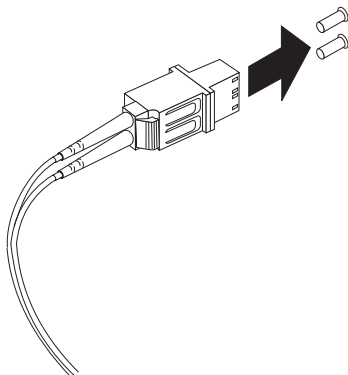

Figure 32. Removing the LC-SC cable adapter protective caps
3. Remove the two protective caps from the LC connector end of the LC-SC cable adapter as shown in Figure 32. Save the protective caps for future use.